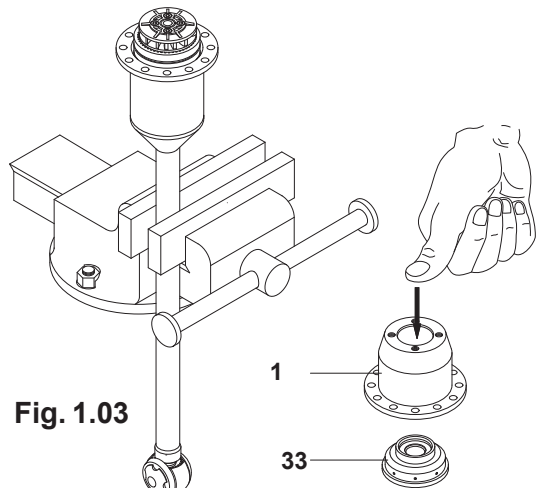

Fig. 1.03
- 1.2.03) Remove the top casing pos. 1 and push out the diffuser kit pos. 33 (Fig.1.03), then replace it after having selected the desired diffuser as per table "A" chapter 8.